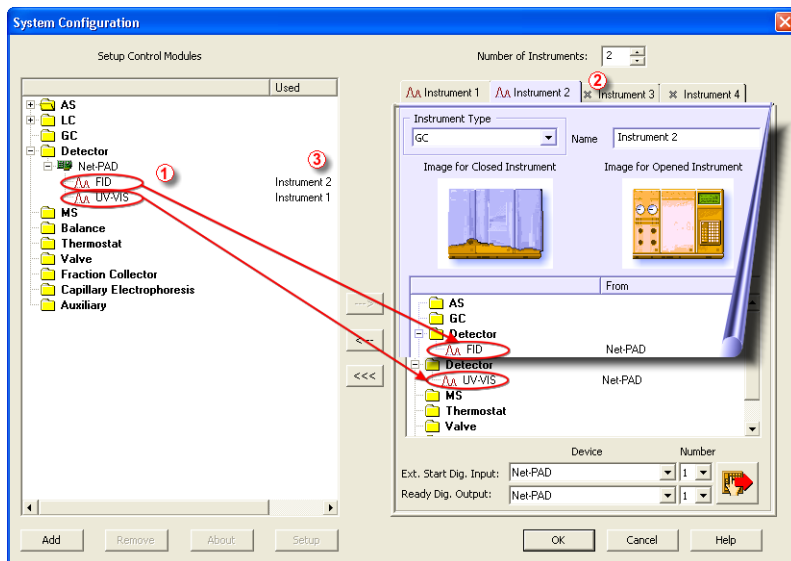

Fig. 12: System Configuration – multiple instruments
When measuring on multiple instruments using only a single **Net-PAD** to gather data, rather than dragging the entire **Net-PAD** icon from the *Setup Control Modules list* ①, drag the individual detector signals (**FID**, **UV-VIS** in this case) to separate *Instruments* ②, see **Fig. 12** on pg. 16. The *Instrument* to which the particular signal is connected is listed to the right ③ of the detector name in the *Setup Control Modules* section.